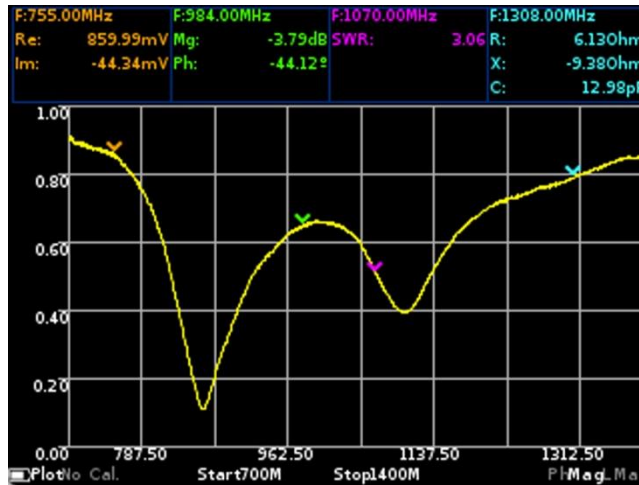

Figure 10.4 – Plot of the magnitude in a linear scale
10.4.1. This plot shows the dependence of the RC magnitude on the frequency in a linear scale (Figure 10.4). On the device screen is displayed as **Mag**. Turning on and off the display of this plot on the screen and its setting is performed as indicated in par. 9.3.
*In our example, in Figure 10.4, a GSM antenna with an operating frequency of 900 MHz is being tested. Above the plot of magnitude with a linear grid, the measurement values of the four included markers are displayed in specified units.*